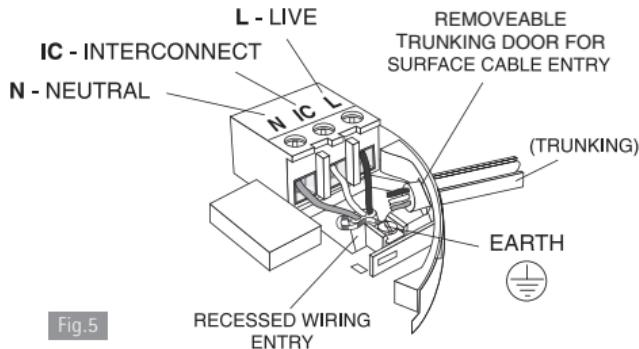

Fig.5
**IC: Interconnect** - see figures 5 and 6 and further information in Section 2.7.
4. If the mains wires are recessed, bring the wires through the rear hole in the mounting plate as shown in Figure 5.
- position the mounting plate so the cable trunking is as shown in Figure 5.